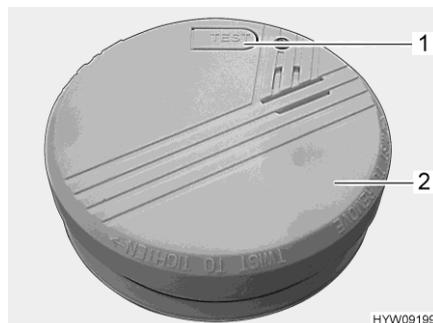

Fig. 125 Smoke alarm
- Turn the smoke alarm (Fig. 125,2) anticlockwise until it can be released from the holder.
- Test the smoke alarm. To do this, press the test button (Fig. 125,1). The alarm must sound.